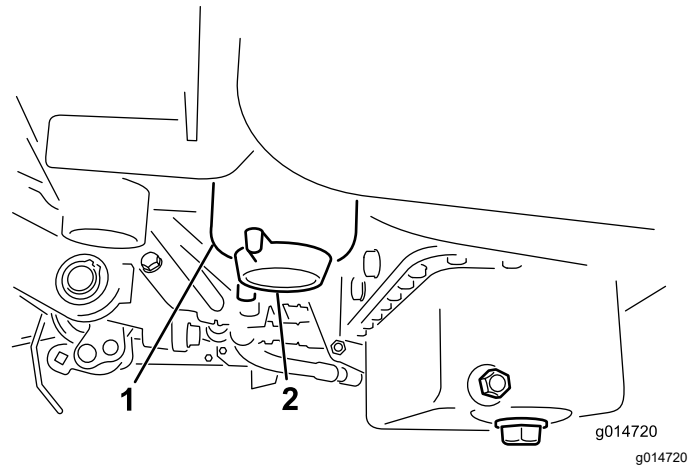

Figure 33
3. Open the drain plug on the fuel filter approximately one turn and drain any accumulated water (Figure 33).